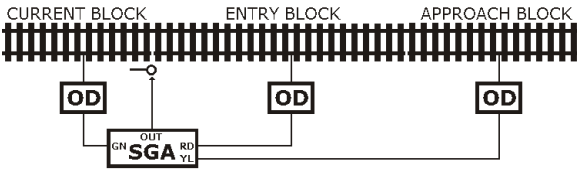

Figure 5
Figure 5 shows an SGA that drives a signal for traffic from the left to the right at the boundary between the first and second blocks. The exit of the first block is where the signal is located, and this block is labelled *CURRENT BLOCK*. A train approaching this signal uses its indication to determine if it may
**Entry:** For the block immediately past (in rear of) the signal, labelled *ENTRY BLOCK* in Figure 5
**Approach:** For the block past (in rear of) the next signal, labelled *APPROACH BLOCK* in Figure 5